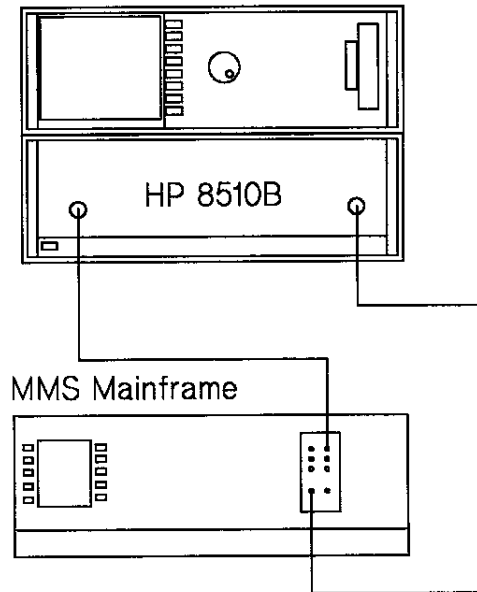

Figure 8-4. Reflection and Insertion Loss Test Setup
1. Connect the equipment as shown in Figure 8-4.